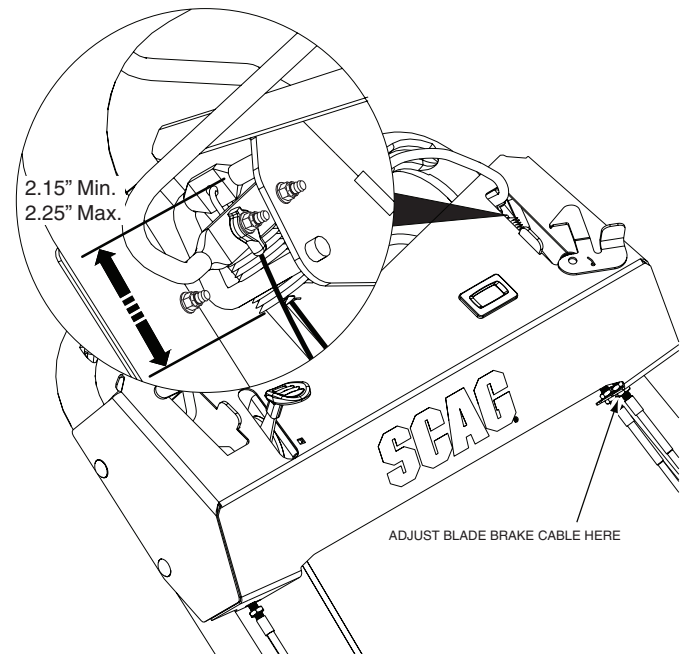

Figure 6-4. Blade Brake Cable Spring
6. With the blade control bar engaged against the handle, measure the stretch of the spring on the blade brake cable. See Figure 6-4.
8. Adjust the tension on the cable by using the adjustment nuts. Turning the cable jacket away from the engine to decrease the tension. See Figure 6-4.